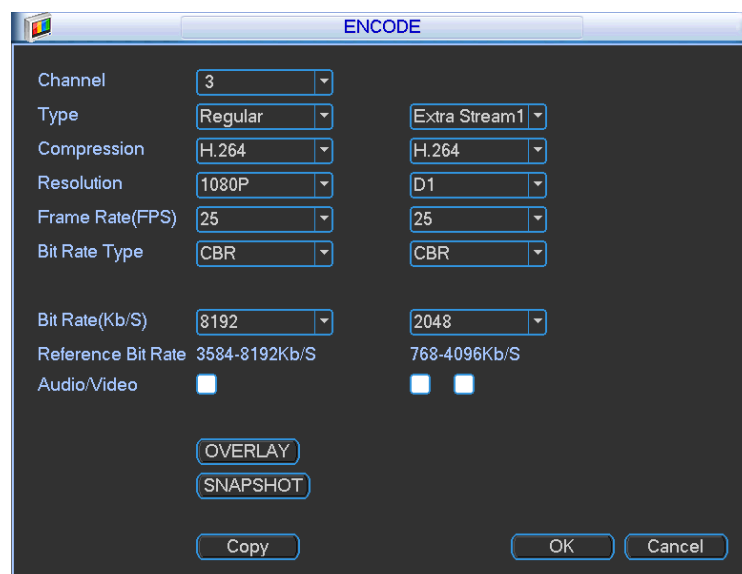

Figure 4-26
Encode setting includes the following items. See Figure 4-26.
- ✧ Copy: After you complete the setup, you can click Copy button to copy current setup to other channel(s). You can see an interface is shown as in Figure 4-28. You can see current channel number is grey. Please check the number to select the channel or you can check the box ALL. Please click the OK button in Figure 4-28 and Figure 4-26 respectively to complete the setup. Please note, once you check the All box, you set same encode setup for all channels. Audio/video enable box, overlay button and the copy button is shield. See Figure 4-29.